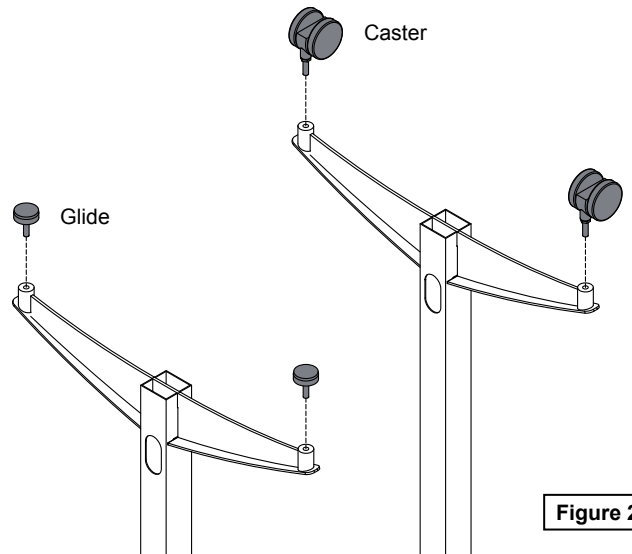

Figure 2
1. Thread the (4) glides or casters into the legs. **Figure 2.**